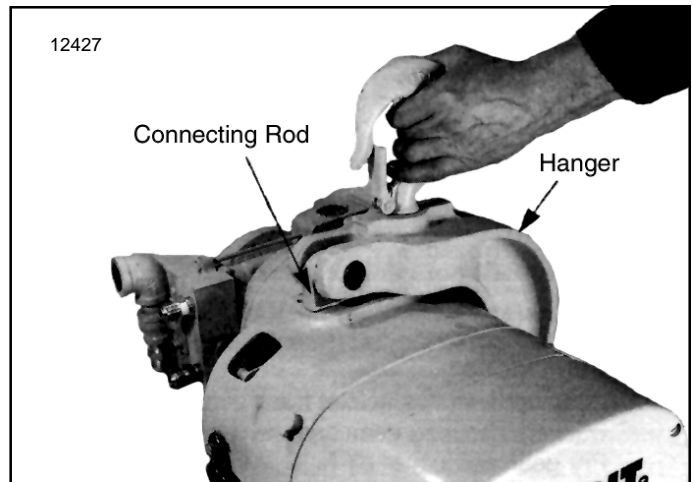
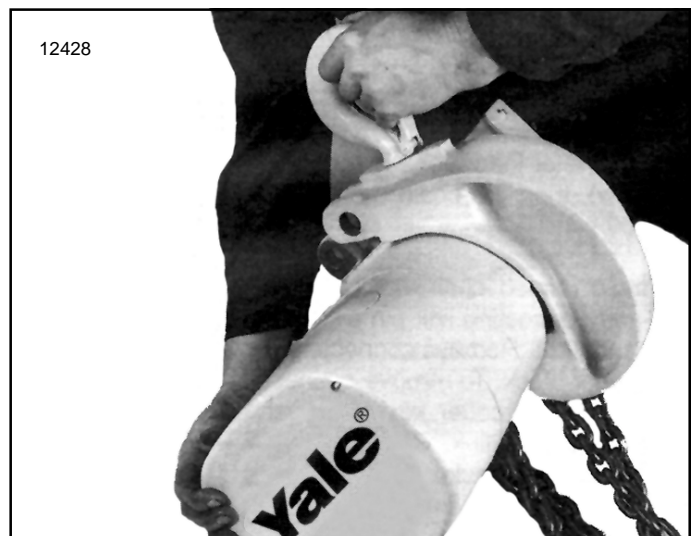

Figure 7-1. 3 Ton Hanger Bracket Connection Pin Removed
Figure 7-2. Removing 3 Ton Hanger Bracket from Hoist Frame
- (4) To remove hanger bracket from triple reeved hoist, remove retaining ring and connecting rod pin (see Figure 7-1). Rotate hoist approximately 45° (see Figure 7-2) and hanger will slip free from hoist frame.
- (3) On tripled reeved models, remove retaining ring from connecting rod pin and push connecting rod pin through bracket and connecting rod, releasing hanger (see Figure 7-1). Raise hanger above hoist frame to provide access to hook nut. Rotate hook until grooved pin in nut is visible from end of hanger frame. Using a drift punch, drive grooved pin through hook nut until it hits hanger pocket. Remove drift punch far enough to hold nut from turning and unscrew hook from nut. Thrust washer will fall free.
- (4) To remove connecting rod (fig 7-2) on 3 ton hoist, remove screw securing suspension bushing keeper. Unscrew suspension bushing to remove connecting rod from frame.